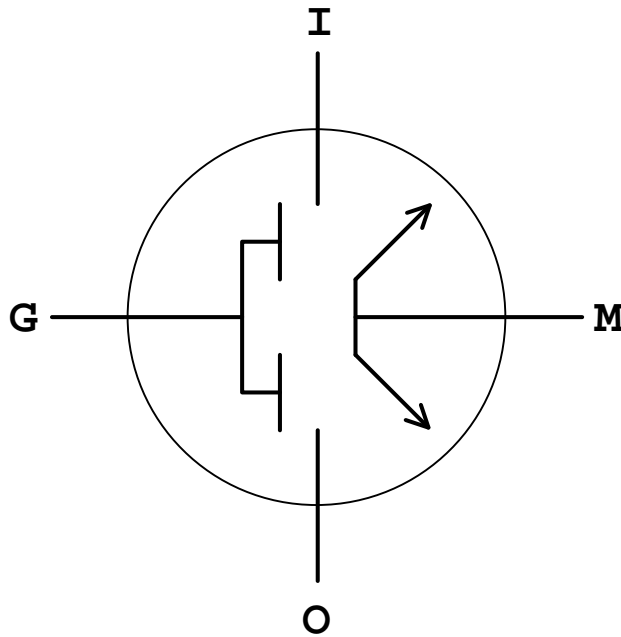

Figure 3. Functional Block Diagram
Functionally, the MM9200 has two sets of contacts in series as shown in Figure 3. Each set of contacts can stand-off up to one-half of $V_{STANDOFF}$ (i.e., $V_{STANDOFF}/2$), as shown in Table 2. To be able to withstand the fully rated $V_{STANDOFF}$ Input (I) to Output (O), the MM9200 needs to be biased such that the Midpoint (M) is at most $V_{STANDOFF}/2$ from Input or Output. See Typical Application Circuits for implementation details for Midpoint biasing. Both sets of contacts are actuated by applying voltage to a common Gate (G).